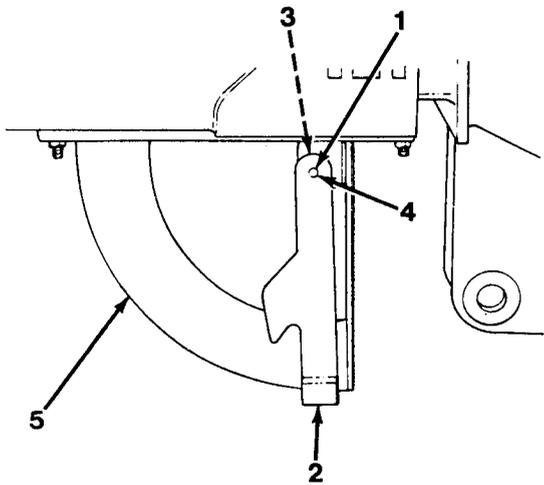

Figure 15-1
1. Remove lock nut (1), pendulum (2) and spacer (3, Figure 15-1).
2. If necessary, remove cam follower (4) by pressing it out of bracket (5).